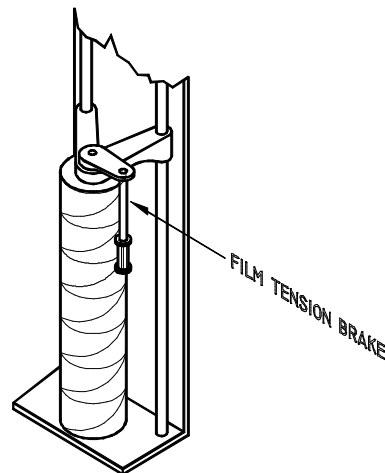

Fig. 7
- 2) Release the film tension brake (see fig. 7) by rotating it counterclockwise. Pull the end of the film out to the pallet, and "snag" it between the boxes or on the part being wrapped, so that it will be pulled off the roll when the turntable begins rotating.
- 2) Release the film tension brake (see fig. 7) by rotating it counterclockwise. Pull the end of the film out to the pallet, and "snag" it between the boxes or on the part being wrapped so that it will be pulled off the roll when the turntable begins rotating.